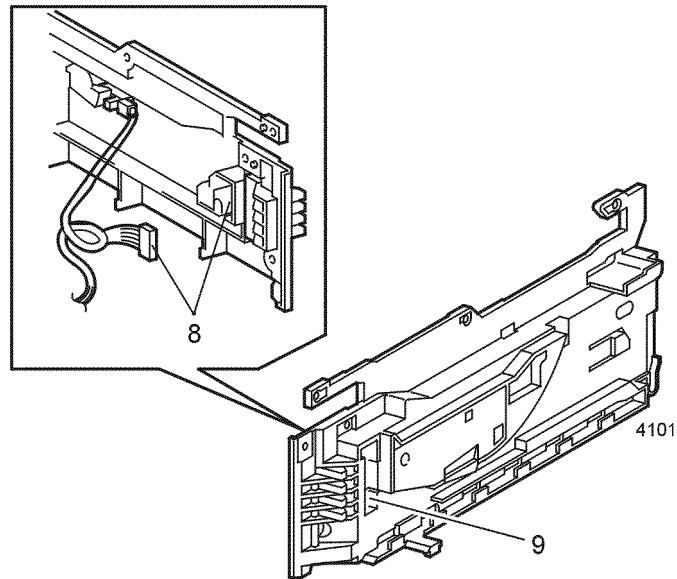

Figure 1 Paper Size Sensor
8. Disconnect P/J139 from the back of the Paper Size Sensor (Figure 1).
9. Release the two locking tabs and remove the sensor (Figure 1).